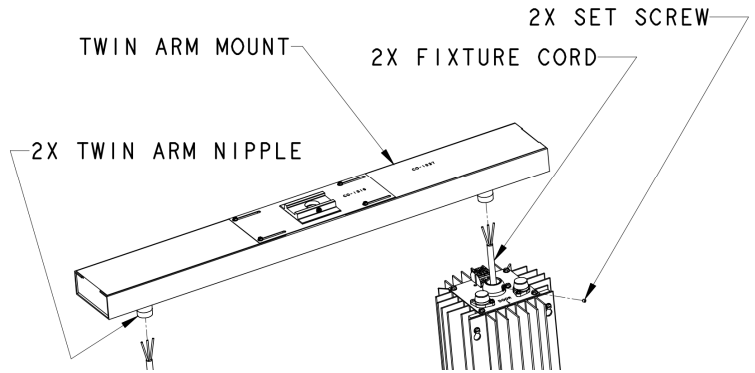

Figure 13.11.2 Twin Arm Fixture Mounting and Wiring
3. To attach fixtures to twin arm, feed fixture cords thru twin arm nipples. Thread fixtures onto twin arm nipples, minimum 6 turns, until tight. (See figure 13.11.2)
4. Tighten set screws to 25-35 in-lb. (See figure 13.11.2) **WARNING FAILURE TO TIGHTEN SET SCREW COULD CAUSE FIXTURE TO FALL RESULTING IN INJURY, DEATH OR SERIOUS PROPERTY DAMAGE.**